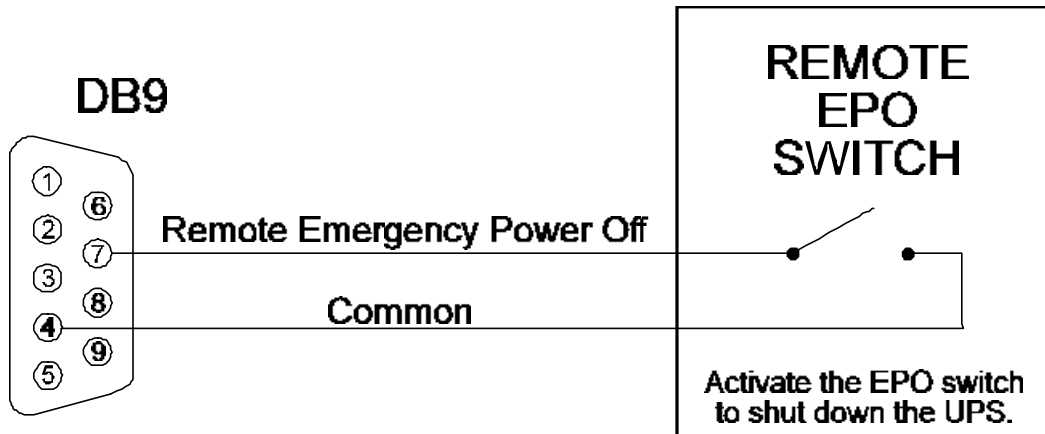

Figure 13
- Your computer room’s emergency shutdown switch must have a set of **dedicated** contacts that can short pin 7 to pin 4 on the UNITY/I unit’s communication port. Use a shielded, single twisted pair cable to connect the emergency shutdown switch to the UPS communication port. See Figure 13.